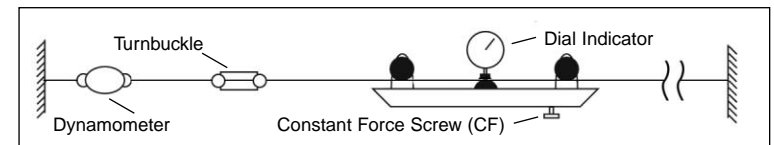

Figure 2. SY Tensiometer Calibration Setup
3. Set up the test cable sample, load-applying device and the inline tension read-out device, as indicated in Figure 2., SY Tensiometer Calibration Setup, below.